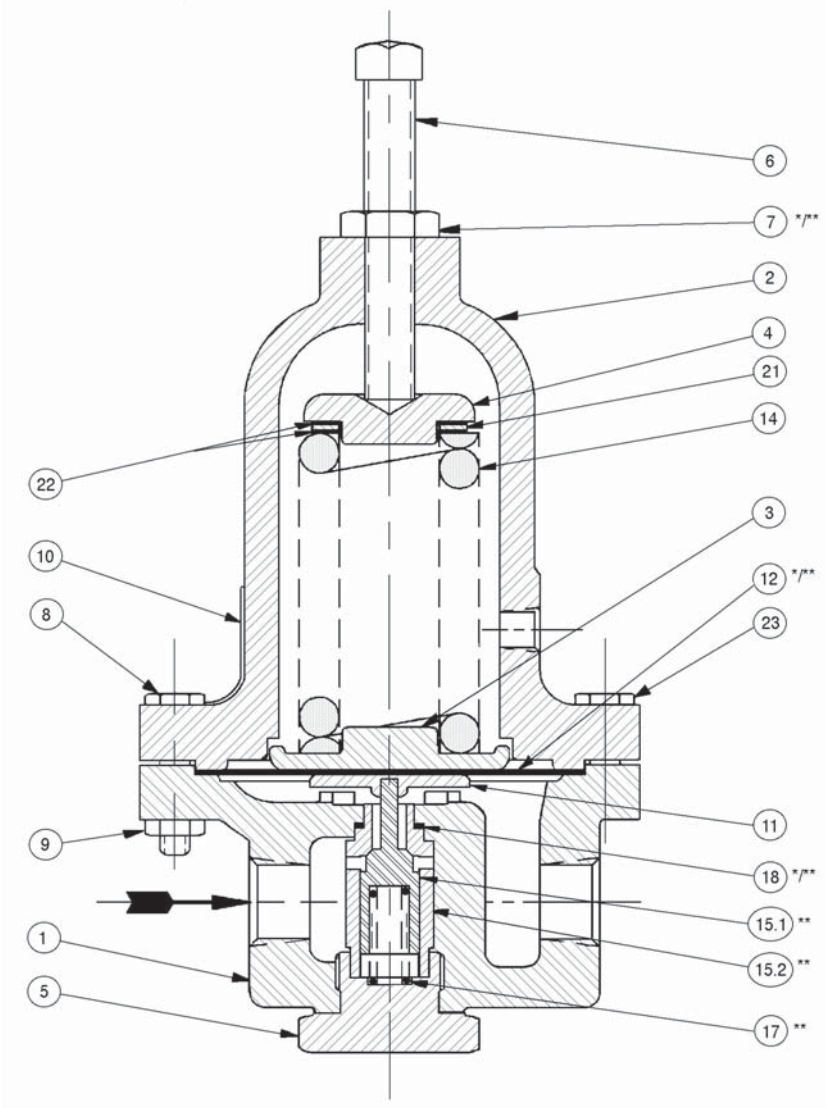

FIGURE 1
3. Refer to Figure 1 for the basic regulator and Figure 2 for a blowup of the balanced trim.